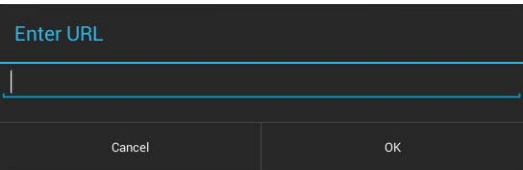

FIG. 37 Enter URL window
1. From the *Streaming Video* page, select *Enter URL* to open the *Enter URL* window (FIG. 37).